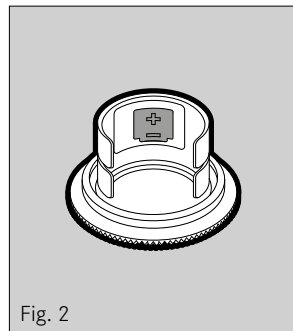

Fig. 2
- ▶ Place the battery with the plus pole facing the opening into the battery compartment (fig. 2).